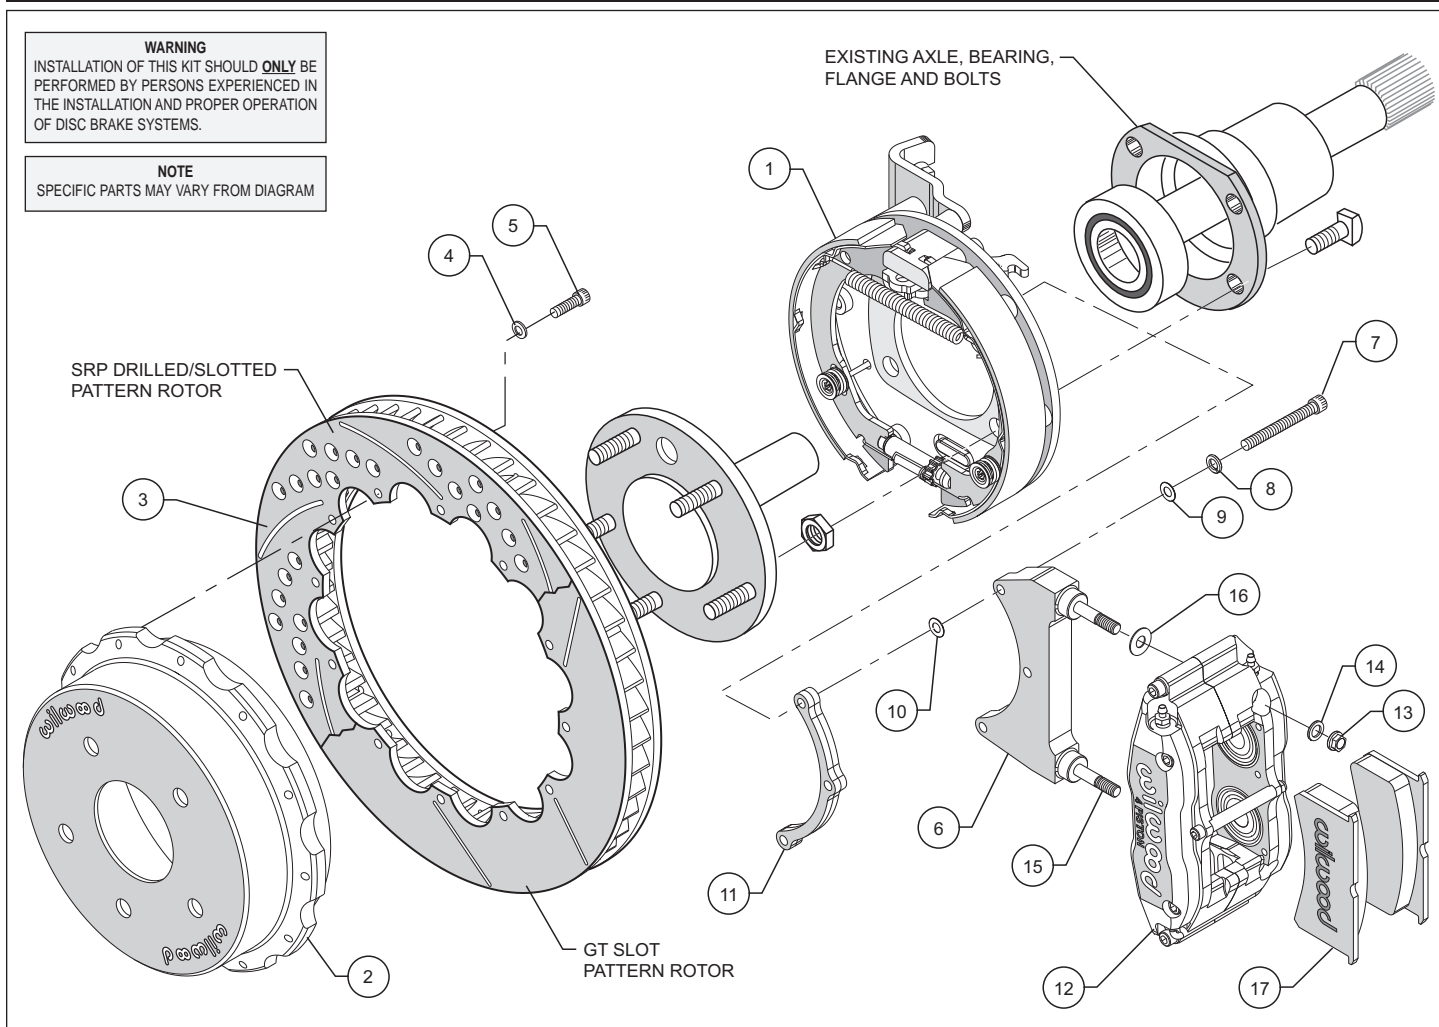
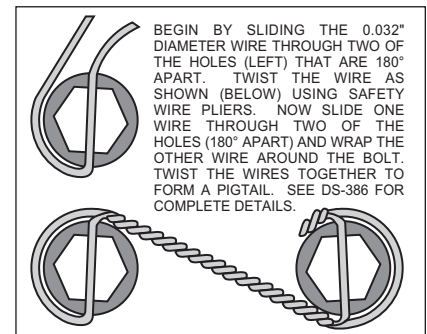

Figure 1. Typical Installation Configuration
Figure 4. Safety Wire Diagram
- Slide the bracket kit assembly (1) onto the housing flange and then insert the axle assembly through the center hole of the bracket kit assembly (1). Secure using the stock Original Equipment Manufacturer (OEM) bolts and nuts. Stock OEM hex nuts that retain the bracket kit assembly (1) should be on the wheel side of the bracket. Apply red *Loctite*® 271 to the stock OEM bolt threads and torque to OEM specifications. Make sure the bracket kit assembly (1) brake pads are FACING OUTWARD TOWARDS THE WHEEL.
- With the larger I.D. side of the rotor (3) facing away from the hat (2), bolt rotor (3) to hat (2) through the backside of the rotor using washers (4) and bolts (5). Torque bolts (5) in an alternating sequence to 103 **in-lb**. Safety wire bolts (5) using standard 0.032 inch diameter stainless steel safety wire as shown in Figure 4. Please refer to Wilwood's data sheet DS-386 (available at [www.wilwood.org/ds386.pdf](http://www.wilwood.org/ds386.pdf)) for complete safety wire installation instructions.
- Align the correct hole pattern in the hat (2) with the stud pattern on the axle flange. **NOTE:** Some OEM and aftermarket axles come with stud sizes larger than 0.50" diameter. Verify stud size and have a qualified machine shop drill the hats to the correct size, if necessary. Slide the hat/rotor assembly (2 and 3) over the wheel studs covering the bracket kit assembly (1) and against the axle flange face. Check to be sure the hat seats squarely against the hub. Install a couple of lug nuts (finger tighten) to keep the rotor/hat assembly in place while continuing with the installation.
- NOTE:** Please reference the caution statement at the beginning of the assembly instructions. The caliper mounting bracket assembly (6) should be installed first with clean, dry threads on the mounting bolts (7). Install the bracket from the rear side of the bracket kit assembly (1) by sliding bolt (7) through lock washer (8), flat washer (9), bracket (6), shim washer (10) and finally through the spacer (11), see Figure 1. **NOTE:** End of bolt should not exceed inside face of insert. The bracket must tighten squarely against the back side of the bracket kit assembly (1). Inspect for interference from casting irregularities, machining ridges, burrs, etc. Use one thin shim (10) between the bracket (6) and spacer (11) during initial trial fitting.
- Install one washer (16) over each pre-installed stud (15) on the radial mount bracket (6). Slide the caliper (12) in place over the studs and rotor, then install the washer (14) and lock nut (13) to hold the caliper in place. The caliper bleed screws should be pointing up. Snug the lock nuts (13) and check that the rotor (3) is centered in the caliper (12). Add or subtract .015" shims (10) as necessary between the caliper mounting bracket (6) and the spacer (11) to center the caliper (12).
- Remove the caliper center bridge pad retainer bolt, nut, and tube from the caliper. Slide the brake pads (17) into place. They should install easily without interference. Check that the outside radius of the brake pad is aligned with the outside diameter radius of the rotor face. Add or subtract shims (16) between the caliper (12) and mount bracket (6) to gain the proper alignment. Reinstall the center bridge pad retainer tube, bolt, and locknut. The locknut should be snug without play in the bolt or tube. Be cautious not to over tighten.
- Adjust the parking brake shoes outward (using a drum shoe adjustment tool available at your local auto parts store) while spinning the hat (2) until a slight drag is felt against the hat/drum. Remove the lug nuts that were holding the hat/rotor in place. Install the wheel and lug nuts. Check to see that the wheel rotates freely without interference.
- Once all clearances have been checked, remove the wheel, caliper, hat/rotor from the bracket kit assembly (1). Secure the caliper mounting bracket (6) to the bracket kit assembly (1) using red *Loctite*® 271. Torque bolts (7) to 180 **in-lb**. Reinstall the hat/rotor assembly and again use lug nuts to hold it in place. Lubricate caliper mounting studs and nuts with lightweight oil, reinstall the caliper, torque the caliper nuts (13) to 30-35 ft-lb.